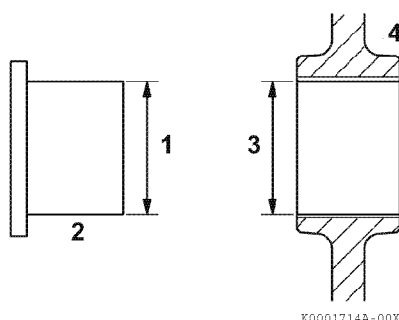

Figure 6-77
1. Measure the outside diameter (**Figure 6-77, (1)**) of the idler gear shaft (**Figure 6-77, (2)**). Record the measurements. *See Idler Gear Shaft and Bushing on page 6-6 for specifications.*
2. Measure the inside diameter (**Figure 6-77, (3)**) of the idler gear bushing (**Figure 6-77, (4)**). Record the measurements. *See Idler Gear Shaft and Bushing on page 6-6 for specifications.*